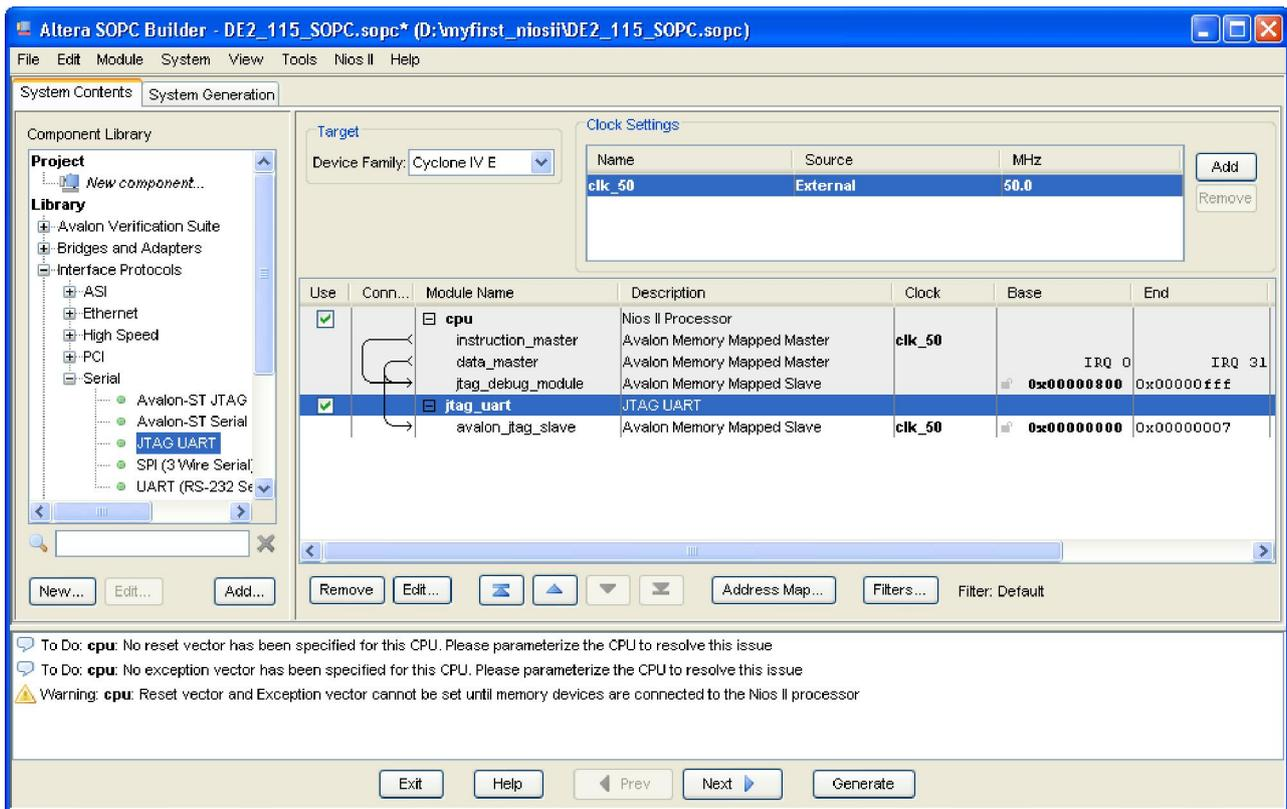

Figure 1-22 Rename JTAG UART
13. Choose **jtag_uart_0** and rename it to **jtag_uart** as shown in Figure 1-22.